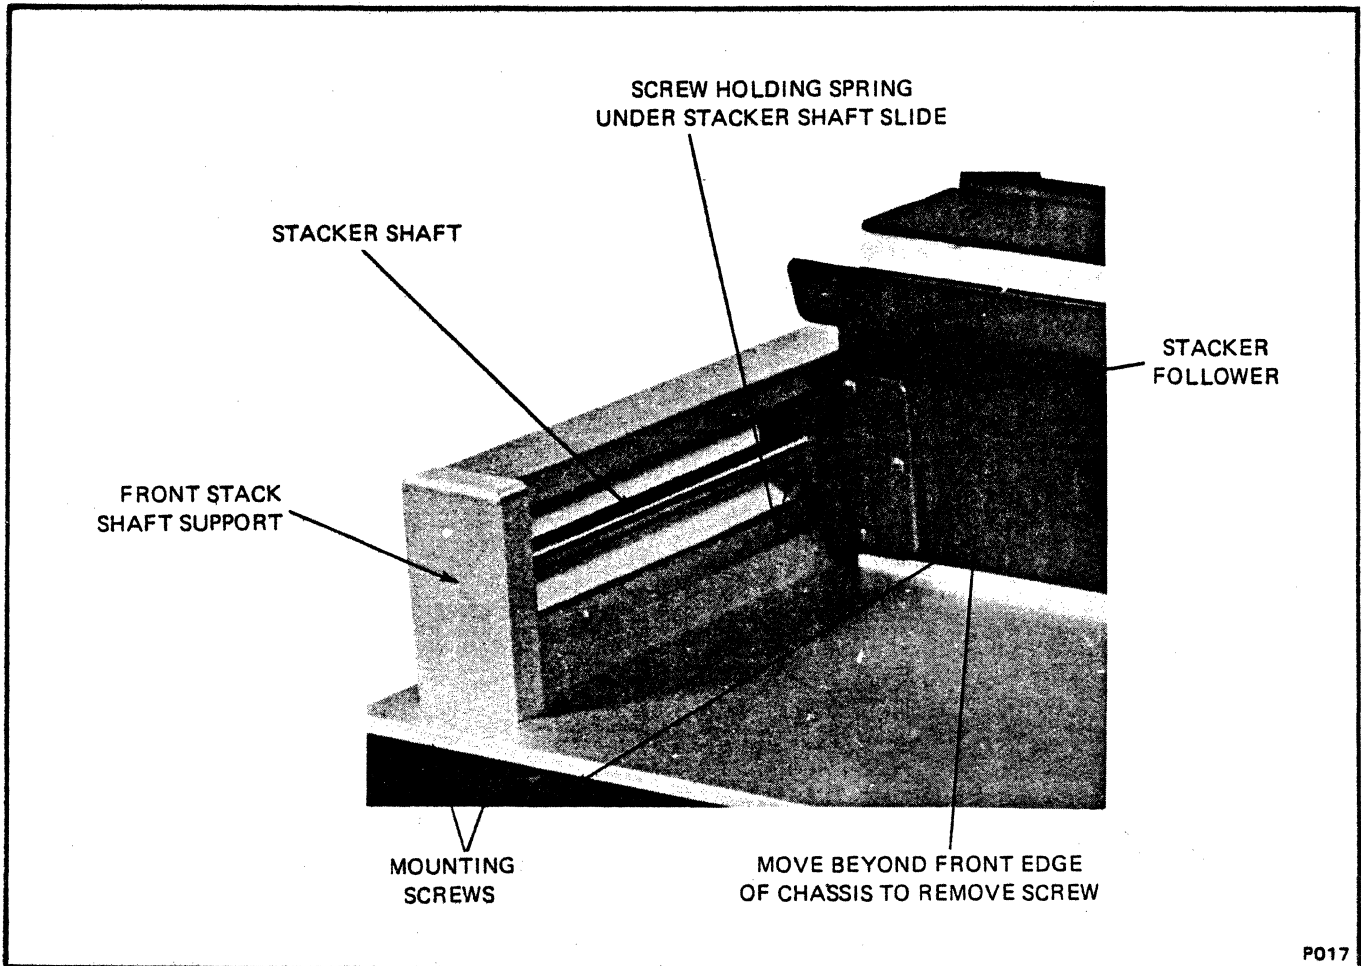

Figure 4-37. Stacker Negator Spring Replacement, Front View
- c. Remove two screws holding front stack follower shaft support (Figure 4-37).